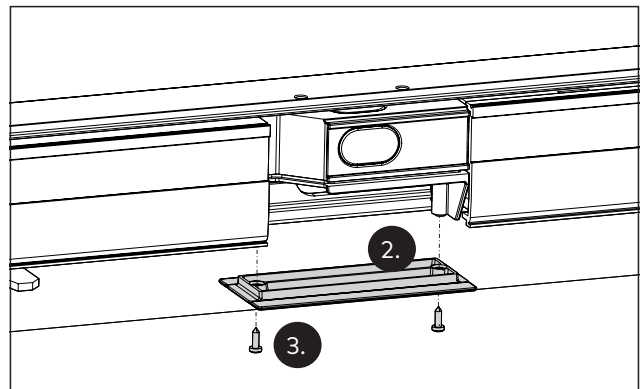

Fig. 31 Mounting the end cap
2. Position end cap (Fig. 31).
3. Tighten the screws (Fig. 31).